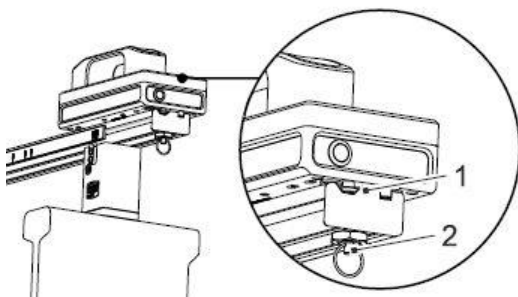

Fig. 3
- Adjust the feet of the FM4-LO in the guide slots of the measuring bar (2, Fig. 3). Here, pull the locking bolt (2, Fig. 3) downward.